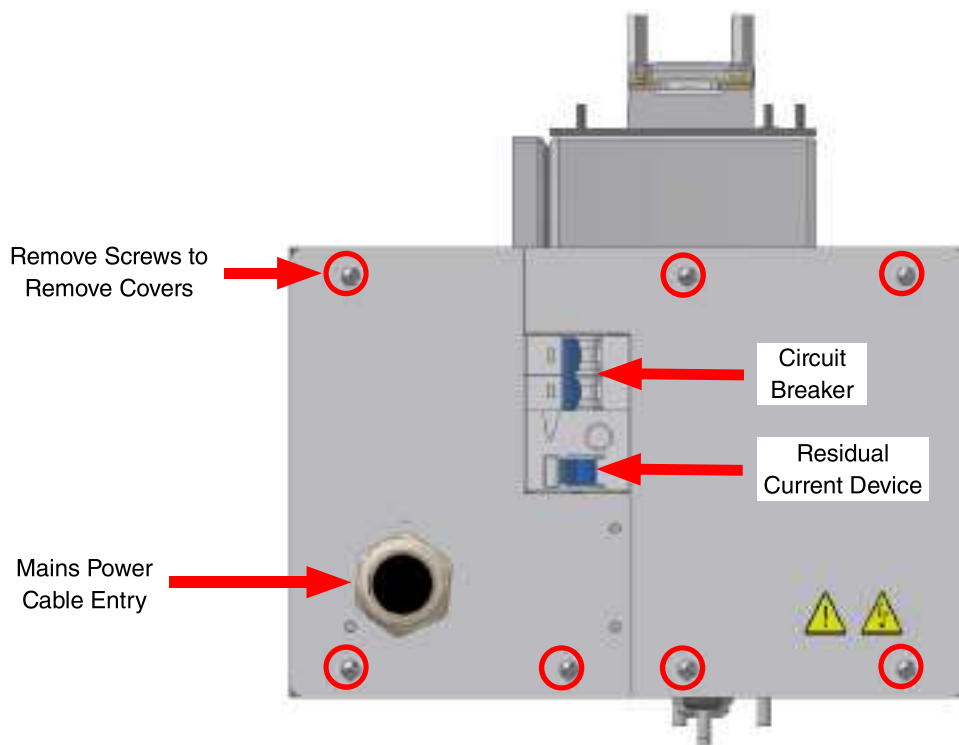
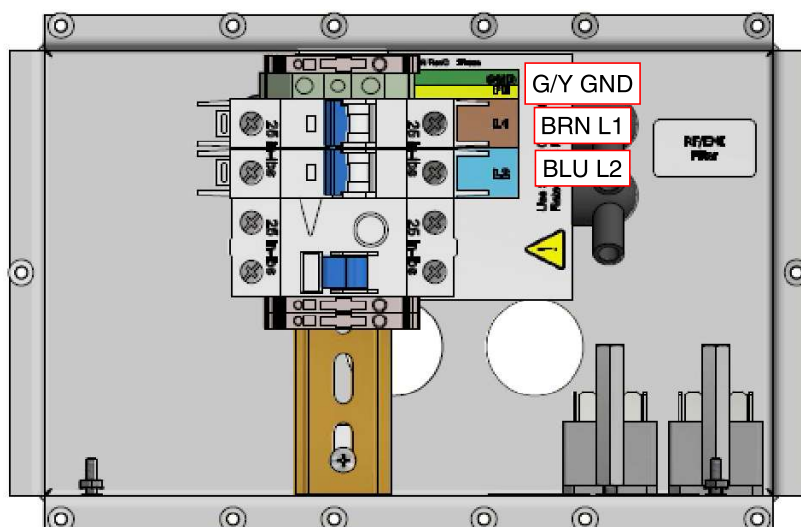

Figure 6.3d: 208/230 V 1-phase electrical power entry and circuit breakers with covers.
Figure 6.3e: 208/230 V 1-phase electrical power entry and circuit breakers with covers removed.
- The mains wires should be connected to the breaker, Figure 6.3d and Figure 6.3e